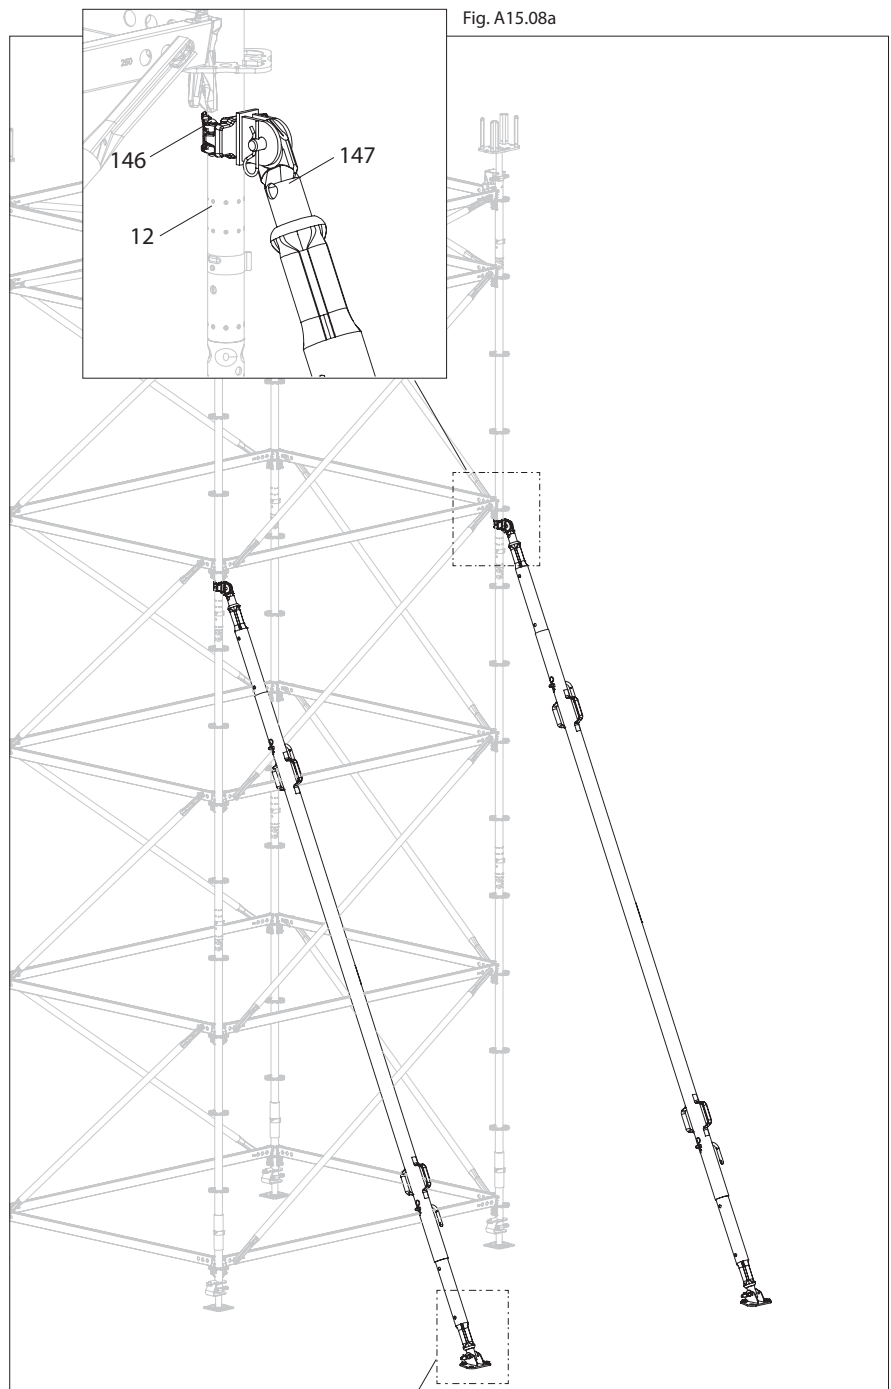
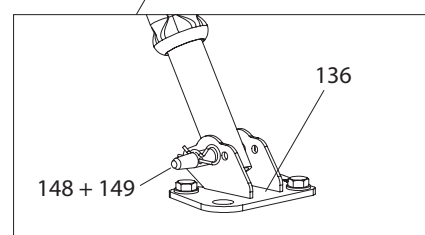

Fig. A15.08
Fig. A15.08b
4. Fix the push-pull prop in the large hole of the base plate with bolts (148) and cotter pins (149). (Fig. A15.08b)
5. Fix Base Plate EWB (136) to the substrate.
- The push-pull prop is now installed. (Fig. A15.08)